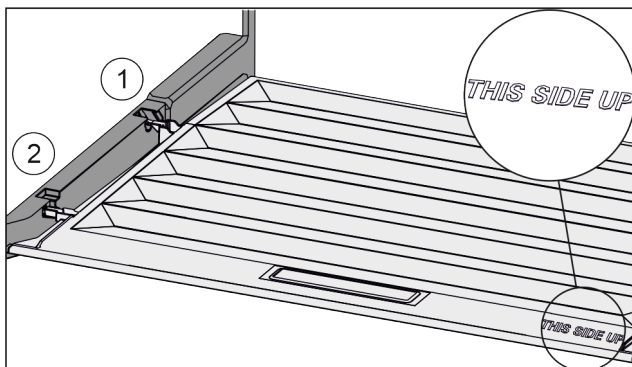

Fig. 28
- ▶ Insert the lip of the cover over the opening of the rear bracket Fig. 28 (1) and click into place Fig. 28 (2).